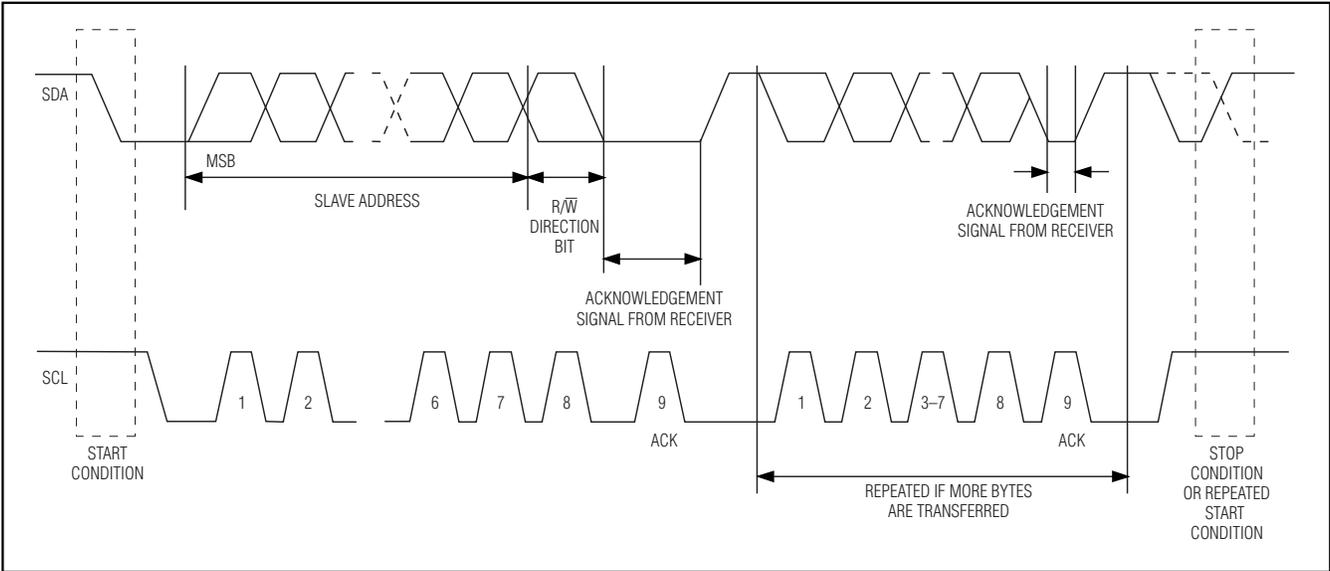

Figure 2. 2-Wire Data Transfer Protocol
The SDA pin is normally pulled high with an external resistor or device. Data on the SDA pin can only change during SCL low time periods. Data changes during SCL high periods indicates a start or stop condition depending on the conditions discussed below. See the timing diagrams for further details (Figures 2 and 3).
A high-to-low transition of SDA with SCL high is a start condition, which must precede any other command. See the timing diagrams for further details (Figures 2 and 3).
A low-to-high transition of SDA with SCL high is a stop condition. After a read sequence, the stop command places the DS3903 into a low-power mode. See the timing diagrams for further details (Figures 2 and 3).
The 2-wire serial port interface supports a bidirectional data transmission protocol with device addressing. A device that sends data on the bus is defined as a transmitter, and a device receiving data as a receiver. The device that controls the message is called a "master." The devices that are controlled by the master are "slaves." The bus must be controlled by a master device that generates the serial clock (SCL), controls the bus access, and generates the start and stop conditions. The DS3903 operates as a slave on the 2-wire bus. Connections to the bus are made through the open-drain I/O lines, SDA and SCL. The following I/O terminals control the 2-wire serial port: SDA, SCL, and A0. Timing diagrams for the 2-wire serial port can be found in Figures 2 and 3. Timing information for the 2-wire serial port is provided in the *AC Electrical Characteristics* table for 2-wire serial communications.
**Data Valid:** The state of the data line represents valid data when, after a start condition, the data line is stable for the duration of the high period of the clock signal. The data on the line can be changed during the low period of the clock signal. There is one clock pulse per bit of data. Figures 2 and 3 detail how data transfer is accomplished on the 2-wire bus. Depending upon the state of the R/W bit, two types of data transfer are possible.